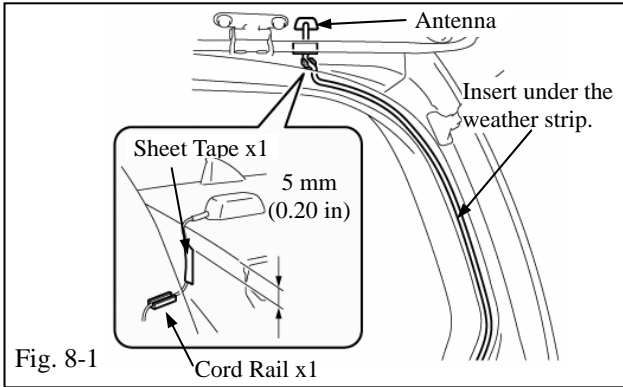

Fig. 8-1
- (a) The roof and the roof/hatch area where the sheet tape and cord rail attach must be cleaned with 3M™ Prep Solvent 70 using the method defined in Step 7(b). (Fig. 8-1)